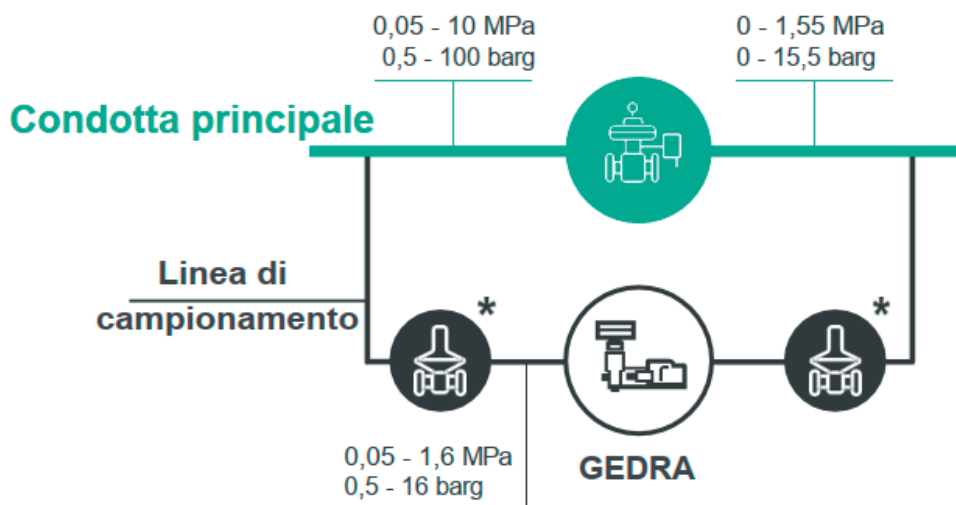

Fig. 4.8. Type 1 Configuration
- Type 1: applicable where there is a pressure drop due to the presence of a pressure regulator. This configuration allows the gas to be re-injected into the line after being analysed (Fig. 4.8)